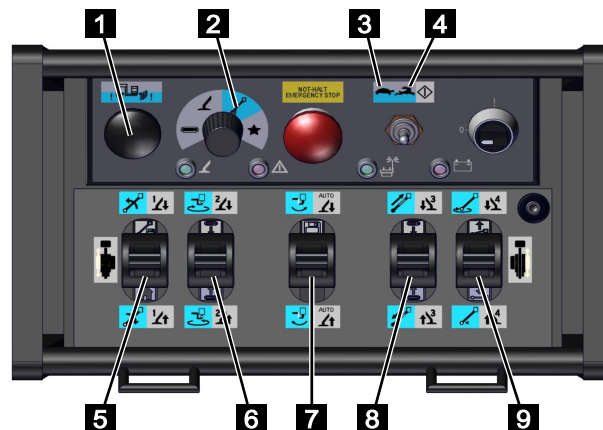

Fig. 139
5. Set the function selector on the control to [platform function] (blue) (Fig.139/2).
6. Use the mode selector on the control to select [crawl speed] (Fig.139/3) or [fast speed] (Fig.139/4).
7. In certain ranges, it will be necessary to press the collision (Fig.139/1) button while simultaneously using the desired control lever.
8. Use the control levers (Fig.139/5, 6, 7, 8 and 9) to operate the platform as per the following table.